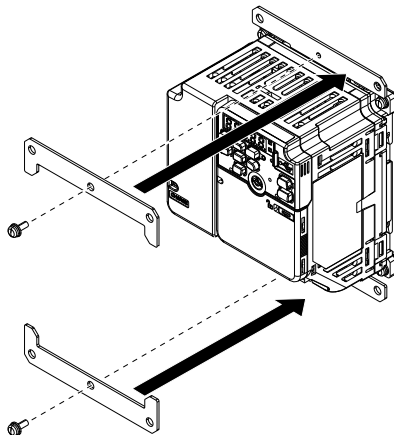

Figure 6.5 Install Bracket 2
1. Use the supplied screws to install 2 each of bracket 1 in the positions shown in Figure 6.5.
2. Use the supplied screws to install 2 each of bracket 2 in the positions shown in Figure 6.5.